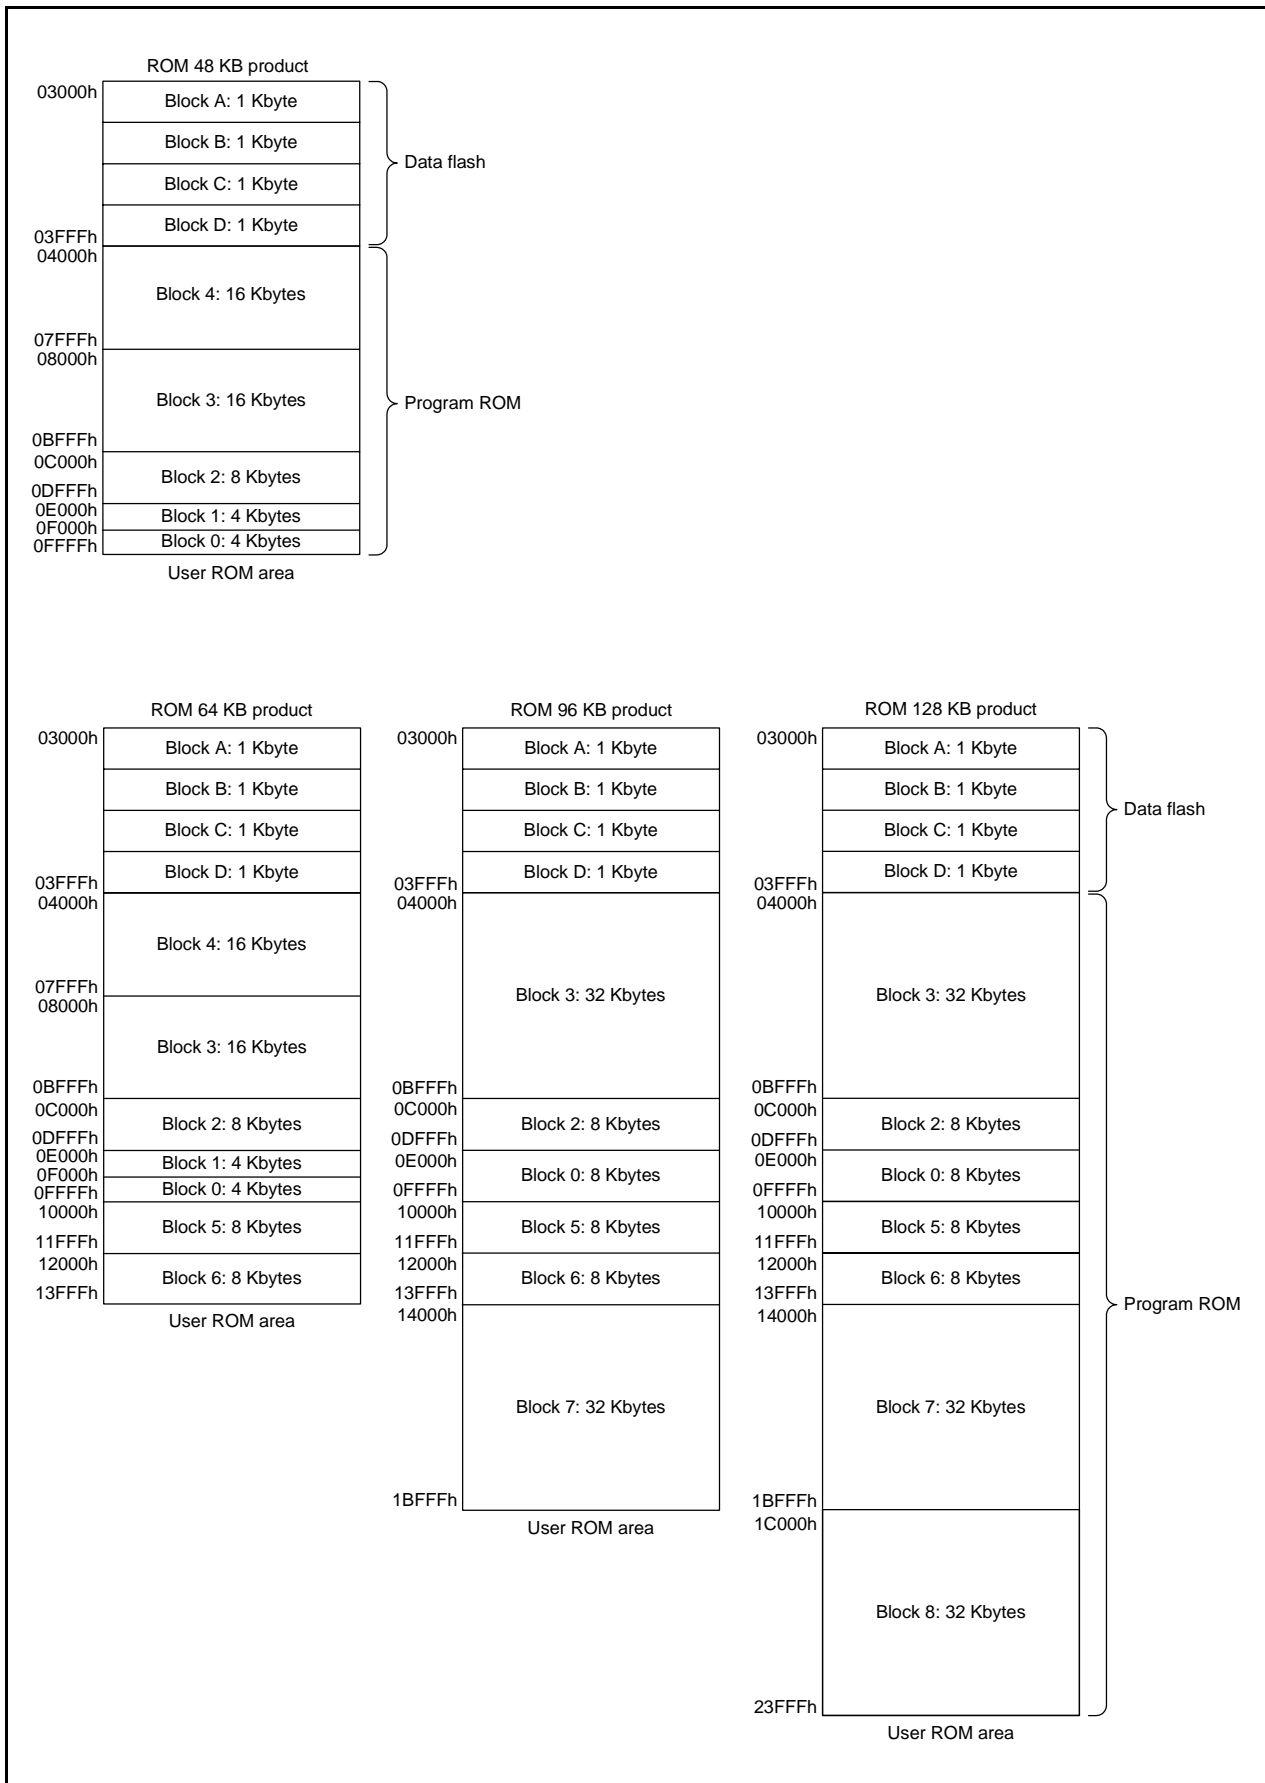

Figure 28.1 R8C/3NT Group Flash Memory Block Diagram
- The number of blocks and block division vary with the MCU. Refer to **Figure 28.1 R8C/3NT Group Flash Memory Block Diagram** for details.
Figure 28.1 shows the R8C/3NT Group Flash Memory Block Diagrams.